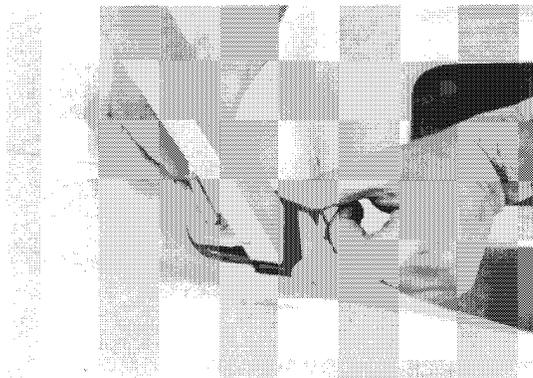

Figure 5-14
6. Remove 2 carriage bolts and nuts located at the rear of both seat back mounting plates (**Figure 5-14**).
1. Install mounting pads between rear body and seat back assembly (**Figure 5-14**).